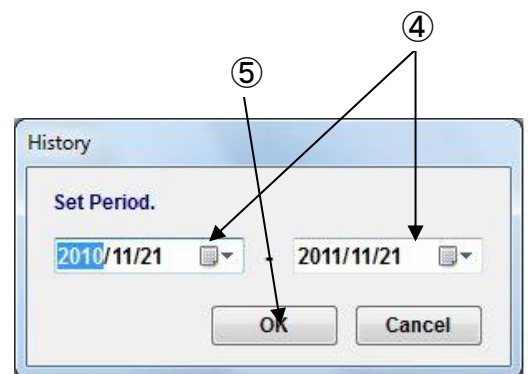

Fig.10-3 Period Setting Dialog Screen
(3) Select [Period] button and "Period Setting Dialog"(Fig.10-3) is displayed.
(4) Input period or select from calendar by [▼] button to change period.
(5) Select [OK] button.
(6) All spare parts consumed in changed period is displayed again.